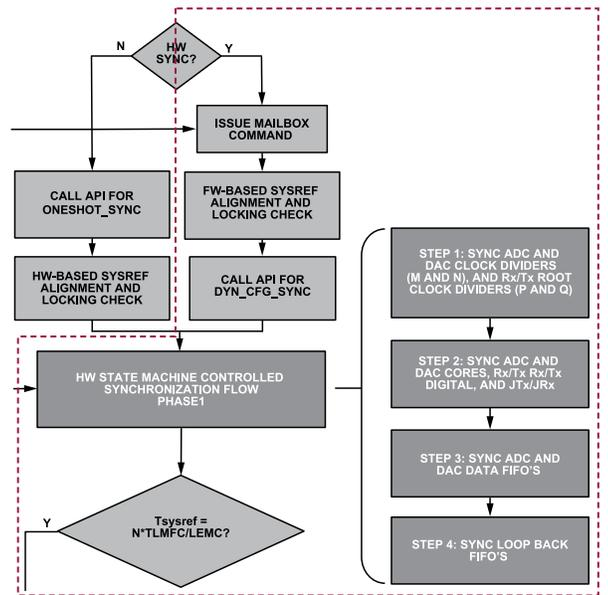

Figure 49. Subclass 1, Single Clock, Firmware-based alignment flow
- ▶ As shown in Figure 49, the step of "FW-BASED SYSREF ALIGNMENT AND LOCKING CHECK" is where the MCS Init Calibration is called and executed by the firmware. Once it's done, the Phase 1 alignment using `DYN_CFG_SYNC` is followed to synchronize the internal timing of Apollo device.